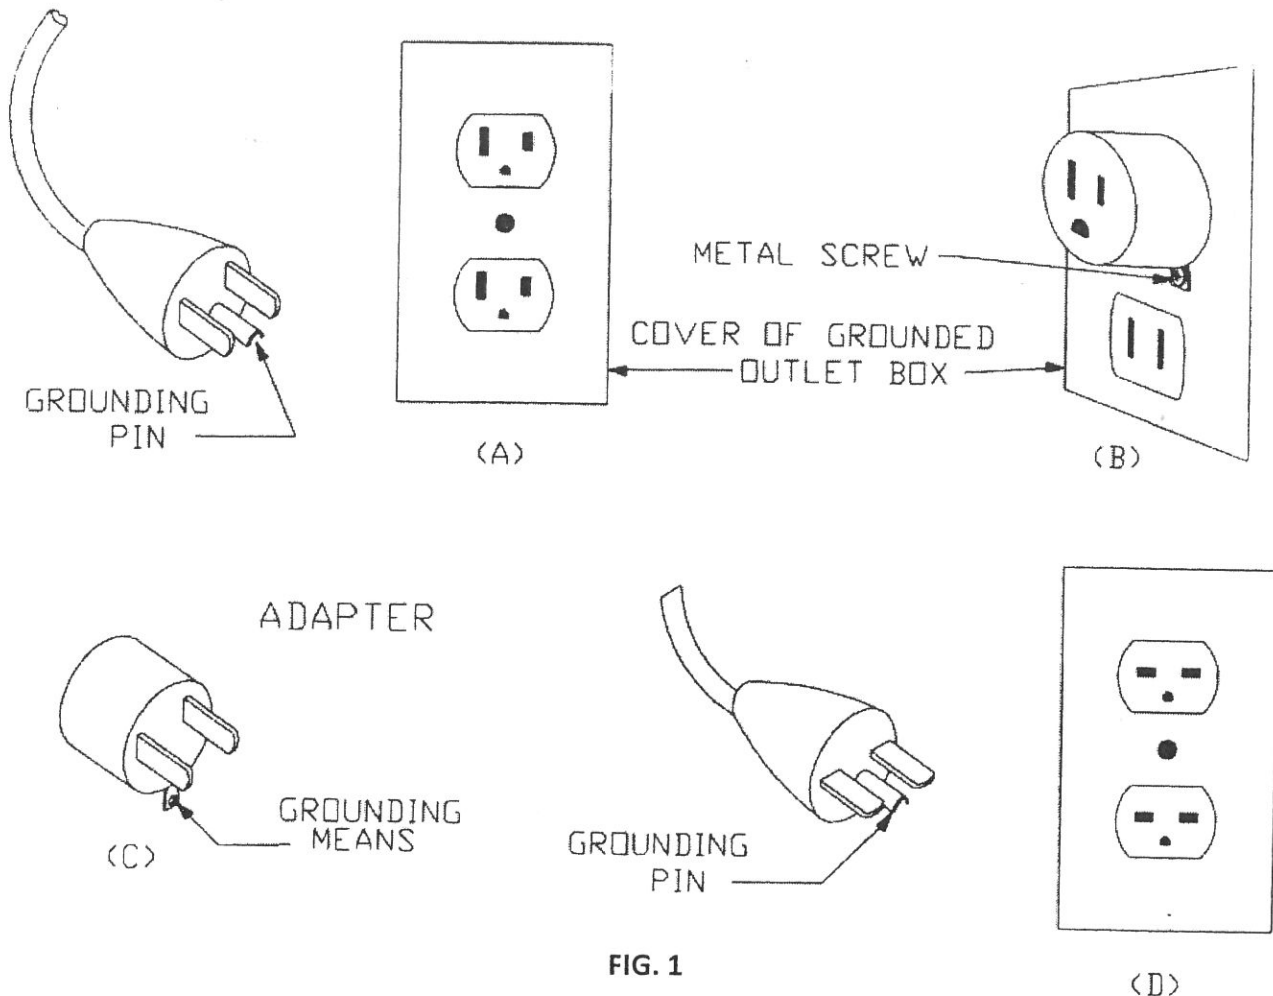

FIG. 1
1. Installation should be done by qualified personnel only. Wiring procedures and connections shall be in accordance with the national and local codes having jurisdiction. **GROUNDING: 120 volt** heaters have a NEMA 5-15 three bladed grounded molded plug, intended for a grounded receptacle Fig. 1 (A). An adapter is available for connecting three-blade grounding-type plugs to two-slot receptacles Fig. 1 (C). The green grounding lug extending from the adapter must be connected to a permanent ground such as a properly grounded outlet box Fig.1 (B). The adapter should not be used if a three-slot grounded receptacle is available. **240 volt** heaters have a NEMA 6-15 three bladed grounded molded plug. No adapter is available for this blade configuration and none should be used. The type outlet is a 240 volt grounding outlet Fig.1 (D). When properly installed, it provides a ground connection through the cord to the heater to protect the operator from electric shock.